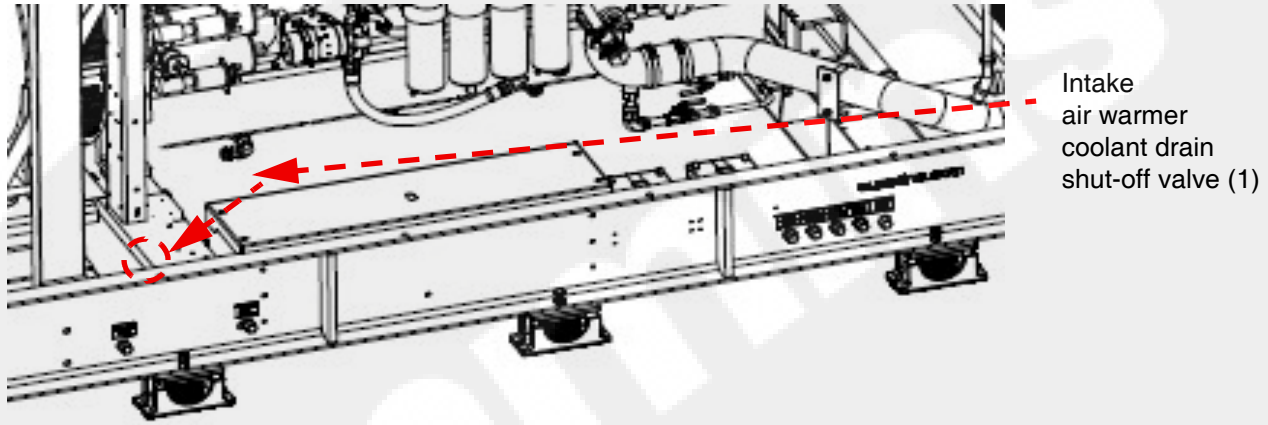

Figure 5-12 GenSet intake air warmer coolant drain shut-off valve (GenSet right side)
5. As shown in Figure 5-12, check that the intake air warmer drain shut-off valve is closed. Turn the tee handle so that it is perpendicular to the drain line. The intake air warmer shut-off valve is *directly behind* the intake air warmer drain (on the right side of the GenSet).